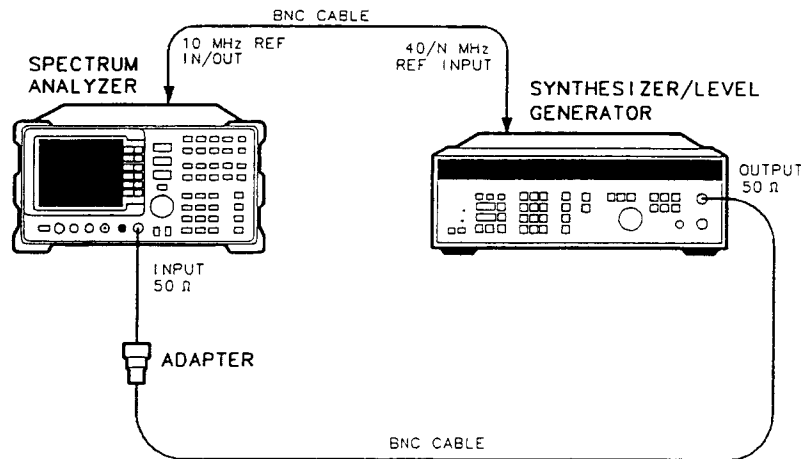

Figure 3-5. Resolution BW Switching and IF Alignment Uncertainty Test Setup
1. Connect the equipment as shown in Figure 3-5. The spectrum analyzer provides the frequency reference for the HP 3335A.